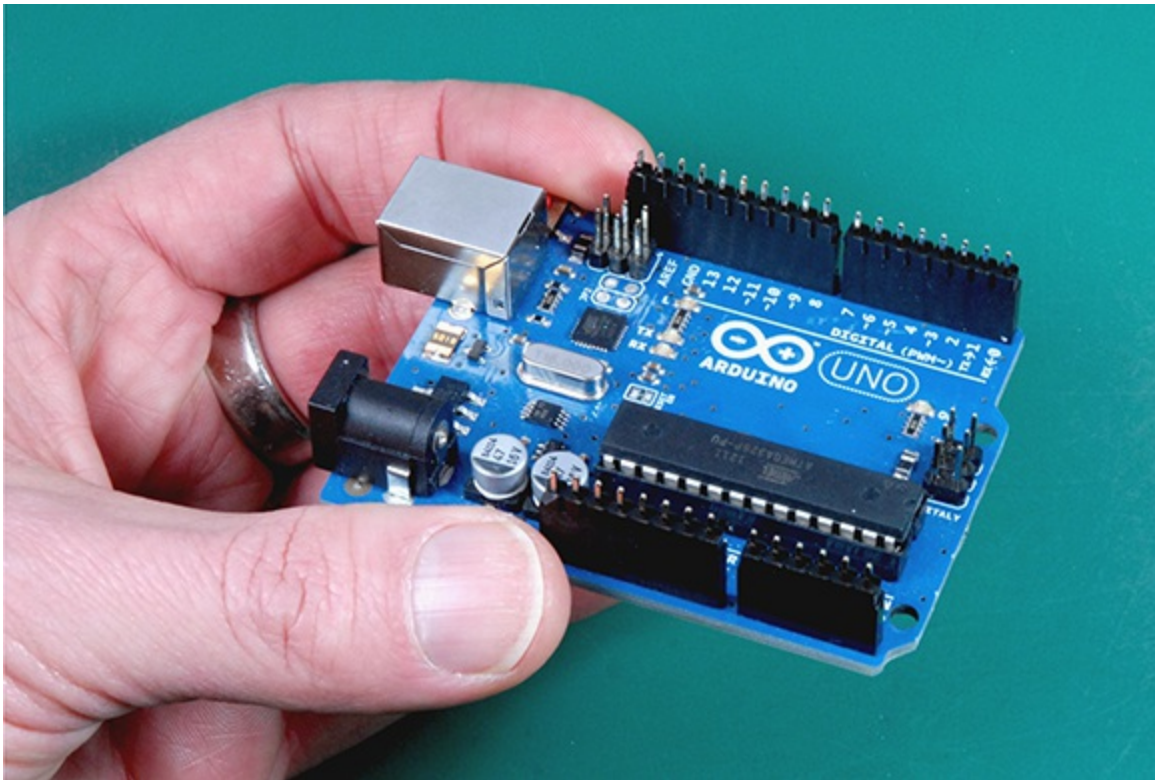

Figure 13-3: Using your Arduino as a soldering support.
- 2. You use your Arduino as a support for your pin headers while you solder them onto the shield. Insert the pin headers into your Arduino's header sockets, as in Figure 13-3.**